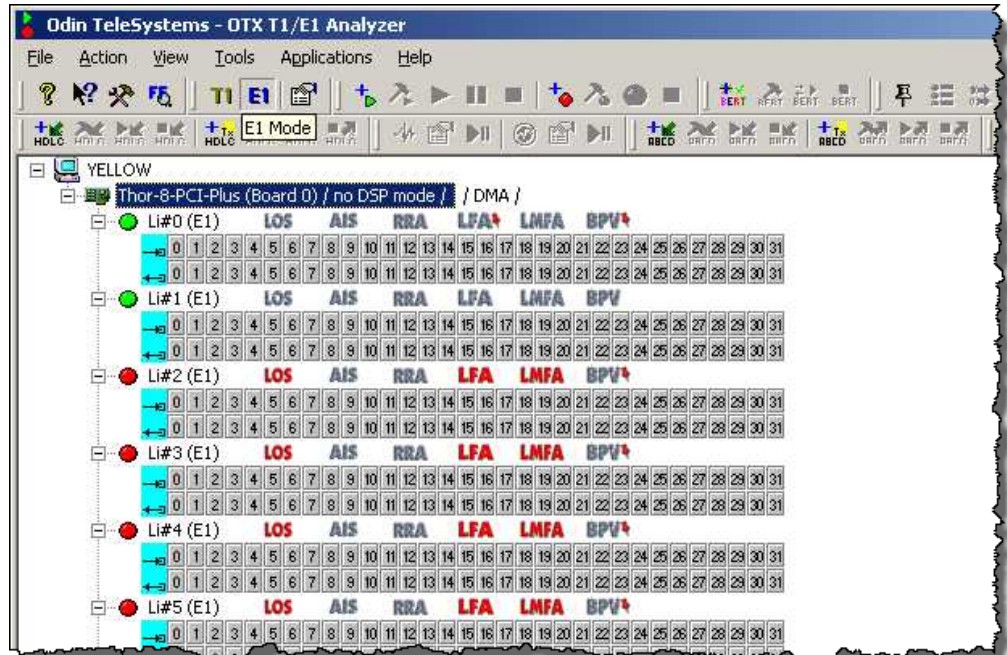

Figure 21 Select E1 Mode.
3. In Figure 21 the “Thor-8-PCI-Plus (Board 0)” label is high-lighted (filled